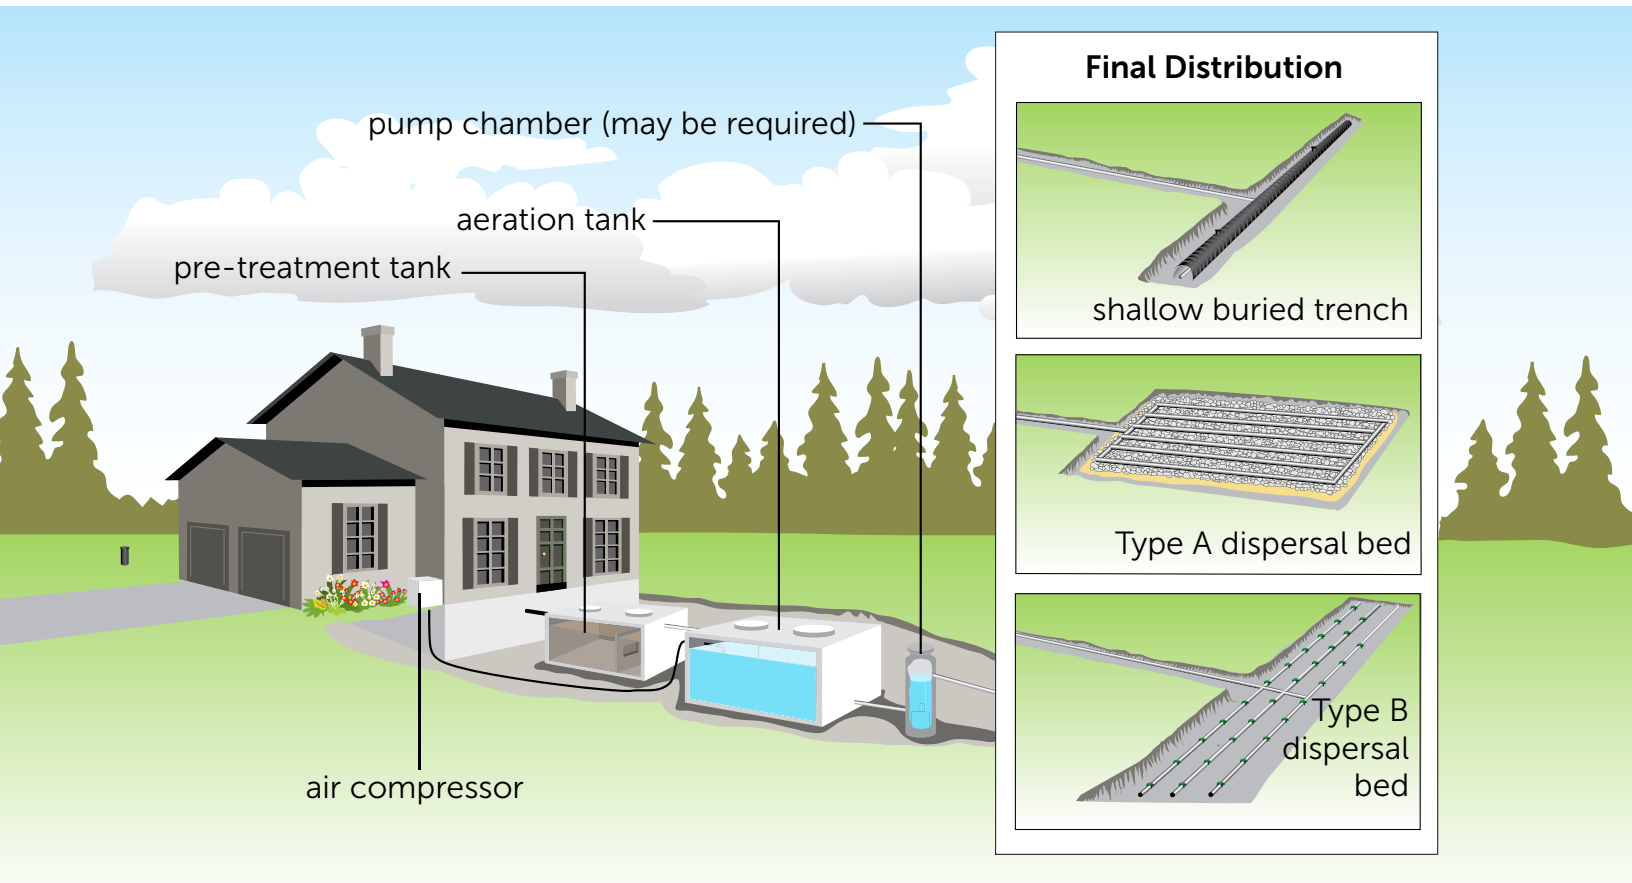

Figure 7. Aerobic treatment units provide Level IV effluent treatment. This allows for a final distribution system that has a smaller footprint.
ATUs treat wastewater by injecting and circulating air into the wastewater so that oxygen-dependent bacteria can thrive (Figure 7). These bacteria break down organic matter, reduce pathogens and transform nutrients (e.g., ammonia to nitrate) to produce a cleaner effluent.
- can use a shallow buried trench, a Type A dispersal bed or Type B dispersal bed for final distribution and treatment which require smaller footprints (Figure 7)